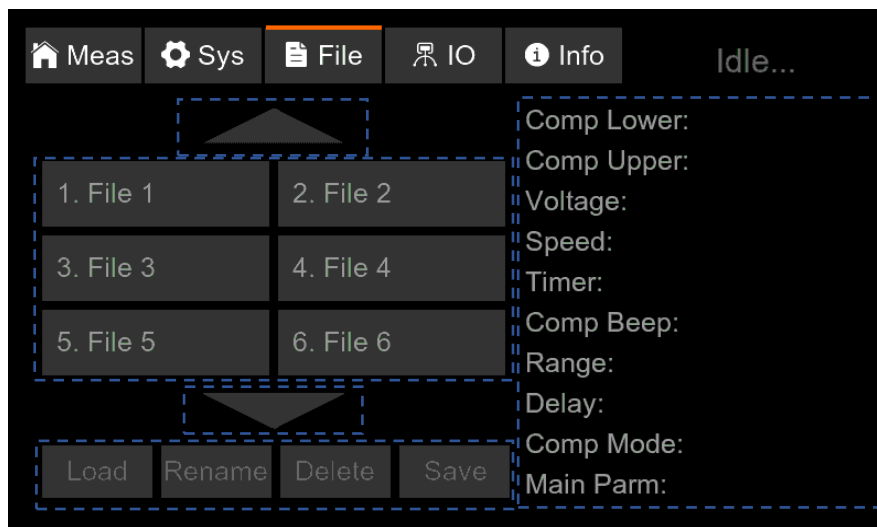

Figure 3-3 File Page
3~4V to the DUT first after the instrument starts the test to test whether there is a short-circuit condition. When the measured resistance value of the DUT is less than $100\text{k}\Omega$, the instrument determines that the DUT has a short-circuit condition. At this point, the main parameter area of the instrument displays Short and ends the test. If the short-circuit check passes, the instrument starts to apply the set voltage for the test, and the information bar at the bottom of the display prompts: "Short-circuit check time X ms, short-circuit check passes! (The test timing sequence is shown in Figure 3-3). (The test sequence is shown in Figure 3-2-4.1.) In addition, the short-circuit check time indicated in the message bar is not counted in the timer. If a longer short-circuit check duration is set manually, the instrument will indicate "SC" in the time detection area during the short-circuit check.
- (1) **Save Settings:** Select the file to be deposited, touch screen and click Figure 3-3 to **save**, an inquiry window will pop up, make sure to save the file. After the saving is completed, select the file, the right side of the file interface will display the setting conditions deposited in the file.
- (2) Delete Settings: Select the file to be deleted, touch the screen and click Figure 3-3 Delete, an inquiry window will pop up to determine the deletion of the file.
- (3) Rename Settings: Select the file that needs to be renamed, touch the screen and click Figure 3-3 Rename, enter the new file name in the pop-up keyboard window and confirm.
- (4) Load Settings: Select the file you need to load, touch screen to click Figure 3-3 Load, a pop-up window will ask you to determine the loading of the file. After loading is complete, the message bar prompts: "File loading is complete!"